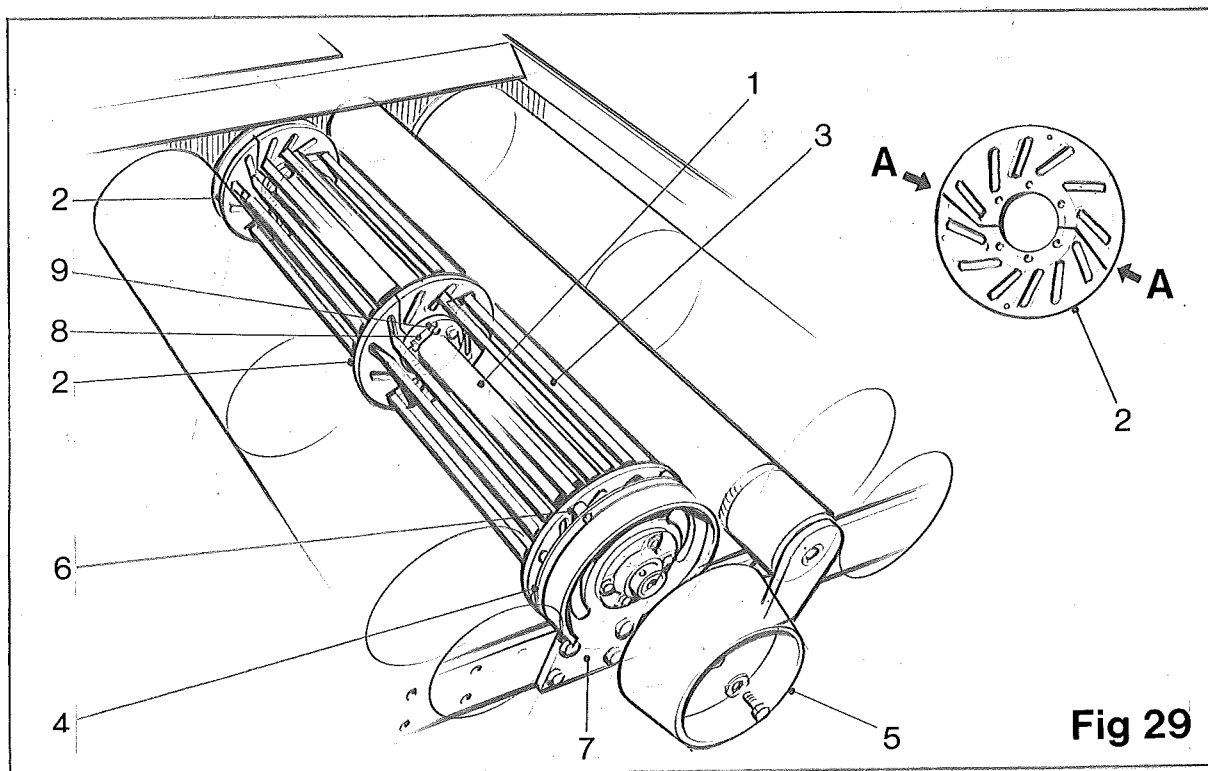

Fig 29
The contra-rotating rollers consist of the centrifugal roller shaft (item 1, fig 29) to which is bolted the centrifugal roller plate (item 2, fig 29). Critically designed angle slots are cut into the plates into which are fitted the centrifugal rods (item 3, fig 29) which are held into place by the centrifugal rod retaining plates (item 4, fig 29).
After a period of working it may be necessary to replace the centrifugal rods (item 2, fig 29) and some, if not all, of the centrifugal roller plates (item 1, fig 29). To do so, first remove the roller spinner (item 5, fig 29) and then the centrifugal rod retaining plates (item 4, fig 29) taking care not to lose the retaining spacers (item 6, fig 29). The centrifugal rods can then be withdrawn through the slots in the centre roller support plate (item 7, fig 29). The centrifugal roller plates (item 2, fig 29) fitted forward to the cleaner are designed to be split for easier fitting and removal. To remove, cut through the plates at point 'A', open the locking tabs (item 8, fig 29) and remove the retaining bolts (item 9, fig 29).